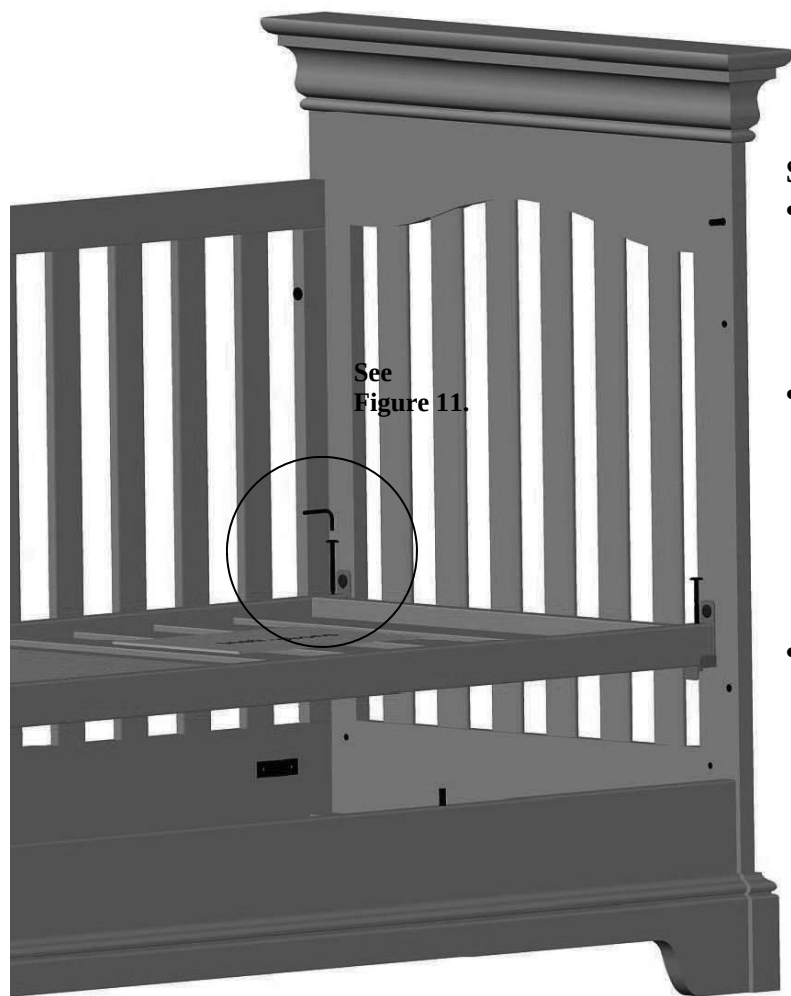

Figure 11.
- After the Mattress Platform is in place, use the (4) 2 3/8" connector bolts to attach the Mattress Platform to the support brackets. Insert each bolt in place and start the bolt into the bracket threads. See Figure 11. Do not completely tighten the Mattress Platform bolts at this time.